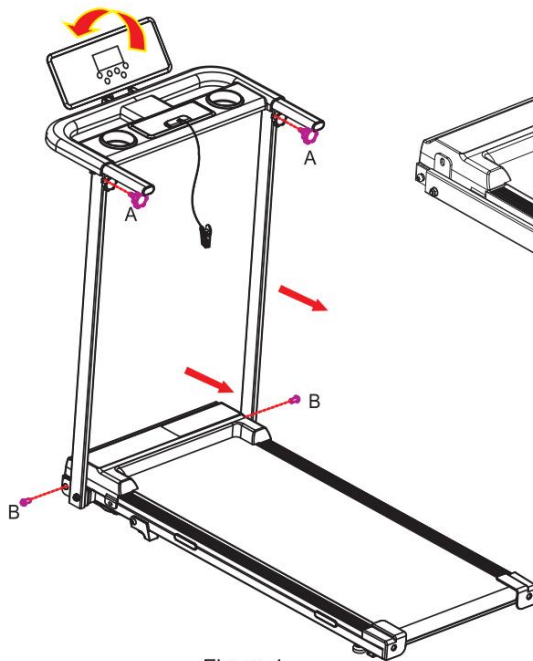

Figure 1
6. Pull the display panel backward until it is flush with the electronic meter, unscrew the two hexagonal knobs (M8*19) at Position A (see Figure 1), then gently rotate the electronic meter to align flush with the riser. Next, unscrew the two Screws (M8*16) at Position B (see Figure 1).